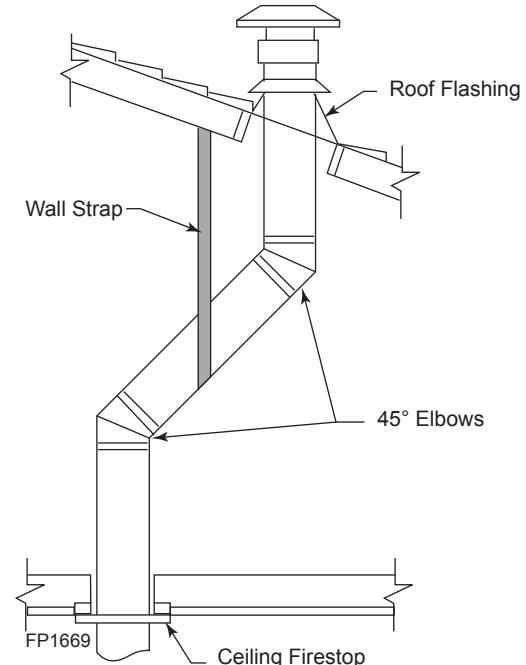

Figure 18 -
- Determine the route your vertical venting will take. If ceiling joist, roof rafters or other framing will obstruct the venting system, consider an offset. *Figure 18* to avoid cutting load bearing members.
NOTE: If an offset is needed to avoid obstructions, you must support the vent pipe every three (3) feet. Use wall straps for this purpose. See *Figure 18, page 17*. Whenever possible, use 45° elbows instead of 90° elbows. The 45° elbow offers less restriction to the flow of the flue gases and intake air.
- Place the flashing over the pipe section(s) extending through the roof. Secure the base of the flashing to the roof and framing with roofing nails. Be sure roofing material overlaps the top edge of the flashing as shown in *Figure 18, page 17*. There must be a 1" clearance from the vent pipe to combustible materials.